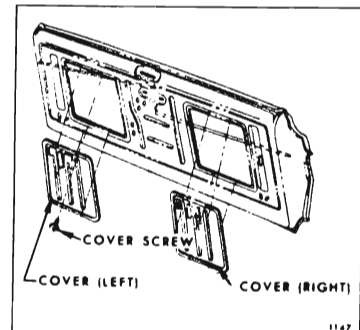

Fig. 9-3—Tail Gate Inner Panel Access Hole Covers
2. Remove screws securing right and left access hole covers to tail gate inner panel and remove covers. (See Fig. 9-3).